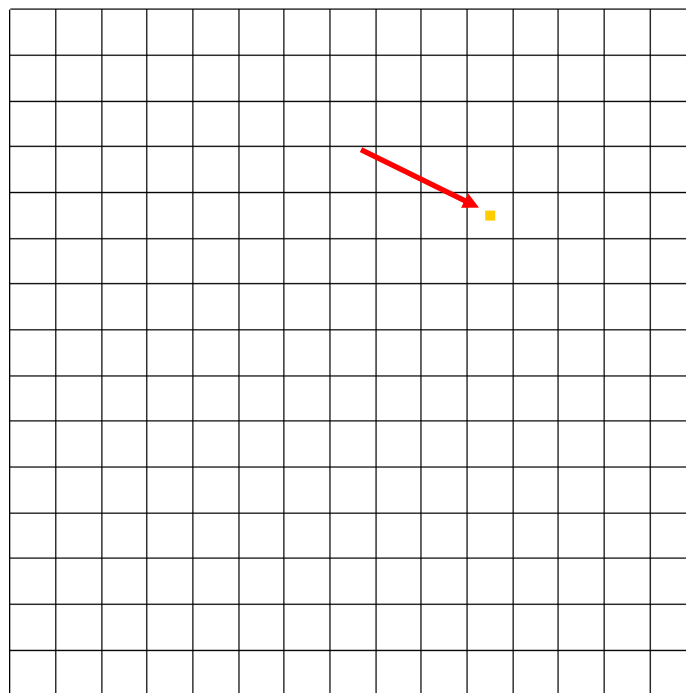

Figure 9 Location of the single well in layer 3
2. Using the **Select Cells**  tool, select the cell shown in Figure 9 (indicated by red arrow). The coordinates of the well are “IJK: 5, 11, 3”.